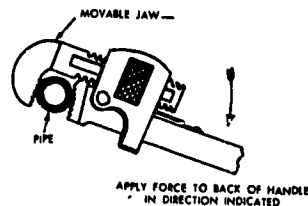

Fig 2-37. Proper application of force with a pipe wrench.
- The proper selection and usage of tools are important safety precautions to follow. Select the proper size wrench for a particular job and use it correctly. Do not use a wrench that is smaller than needed for the job, and then use a cheater bar (fig 2-37) for added leverage. This procedure could cause you to break the wrench or damage the piece you're working on. Also you could injure your hand or another part of your body. Figure 2-37 shows you the right way to apply leverage to a wrench.
- Pipe wrenches will work in one direction only. Figure 2-37 shows the correct way to apply force using a pipe wrench.